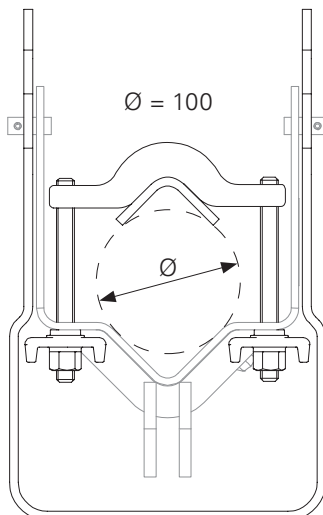

Fig. A2.02
- Other props up to $\varnothing \leq 100$ can also be used instead of the MULTIPROP MP. (Fig. A2.02)